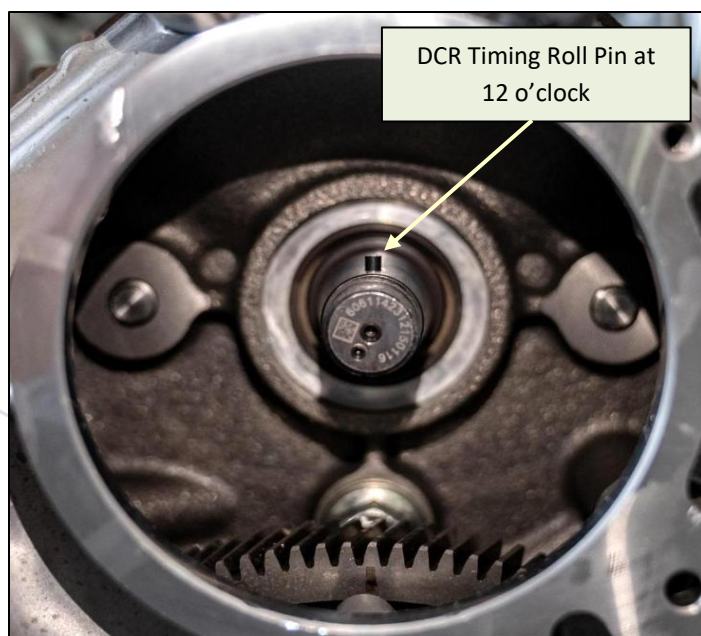

Figure 26: DCR Roll Pin at 12 o'clock
9. **Fuel Pump Timing:** Turn the DCR pump shaft until the alignment pin is pointing straight up or in the 12 o'clock position as shown in Figure 26.
- a. Install the gear in the same orientation that it was removed with the double marks on the pump gear straddling the single mark on the engine's cam gear. Gear keyway at 12 o'clock as shown in Figure 26.